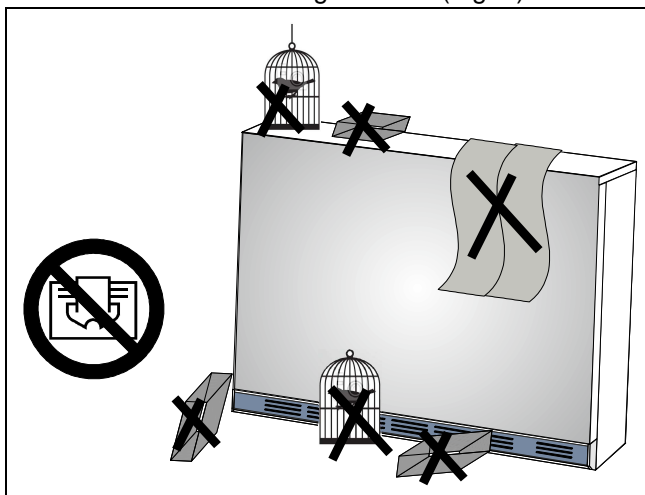

Fig.1: Warning sticker on the storage heater
- Do not cover the storage heater! (Fig. 1)